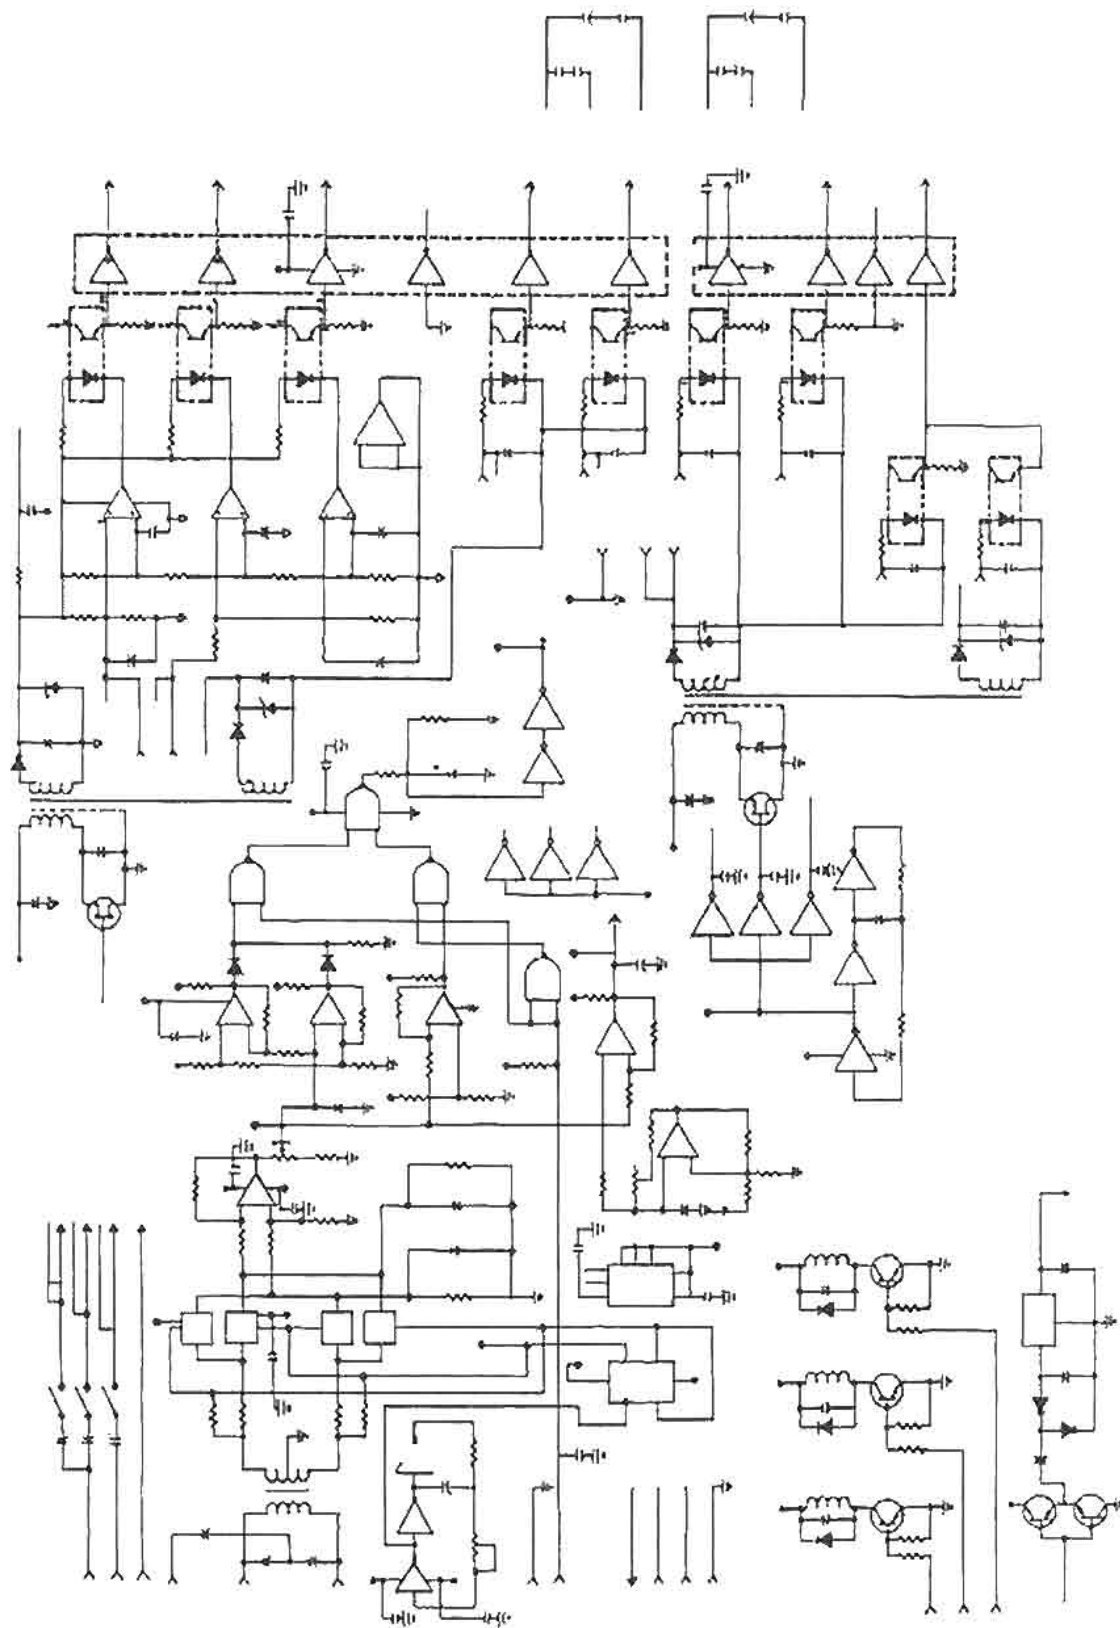

Figure 4-12. Interface PCB schematic.
- (4) Interface PCB schematic — figure 4-12.